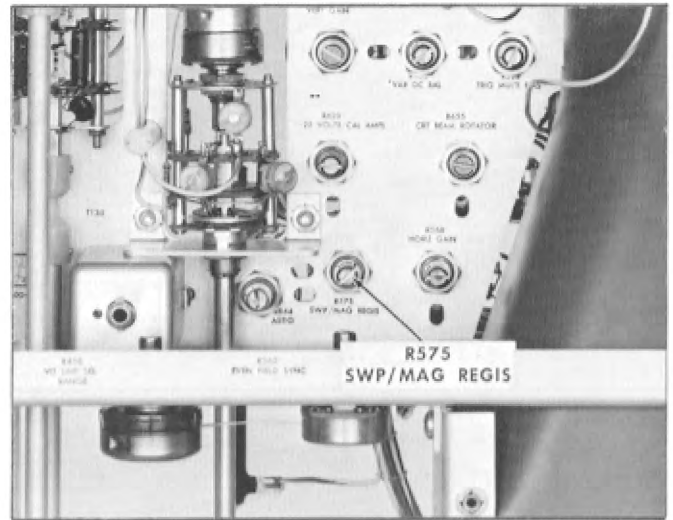

Fig. 6-28. Location of SWP/MAG REGIS adjustment.
- e. Adjust the SWP/MAG REGIS control (R575; see Fig. 6-28) so the vertical pulse group coincides with graticule center (see Fig. 6-27B).